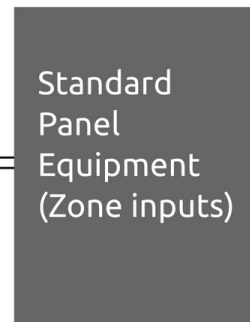

Figure 1: Xandem TMD architecture.
The **processing unit (PU)** is the second kind of device which acts as a gateway for the motion detection signal. It has normally-closed contacts that can be used to easily integrate the TMD kit with other systems, as shown in Figure 1.